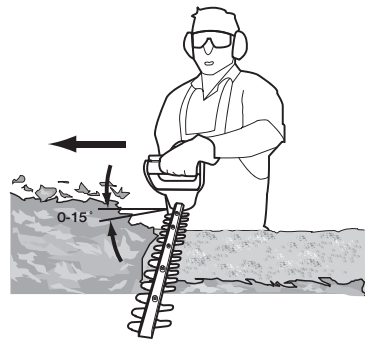

Fig. 22
- > After cutting the sides proceed to the top (Fig. 22). Try to keep the cutting device angled at approximately 15° to the cutting surface.